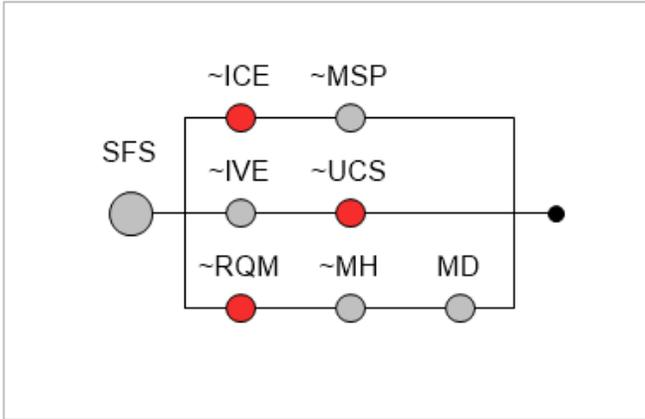

Figure 6-5. ~ICE, ~UCS, ~RQM Cut Set
- ⇒ Arrow down to select the next most costly cut set. See Figure 6-5.